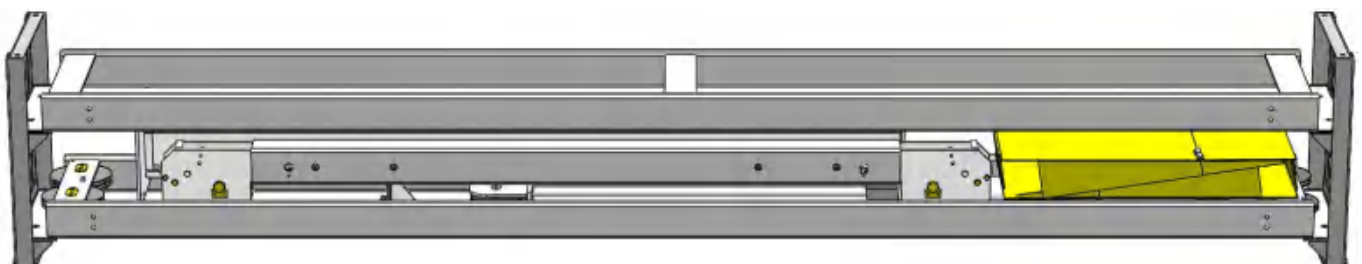

Fig. 10
3. Move the columns and cross beams aside to the installation position. (see Fig 10)